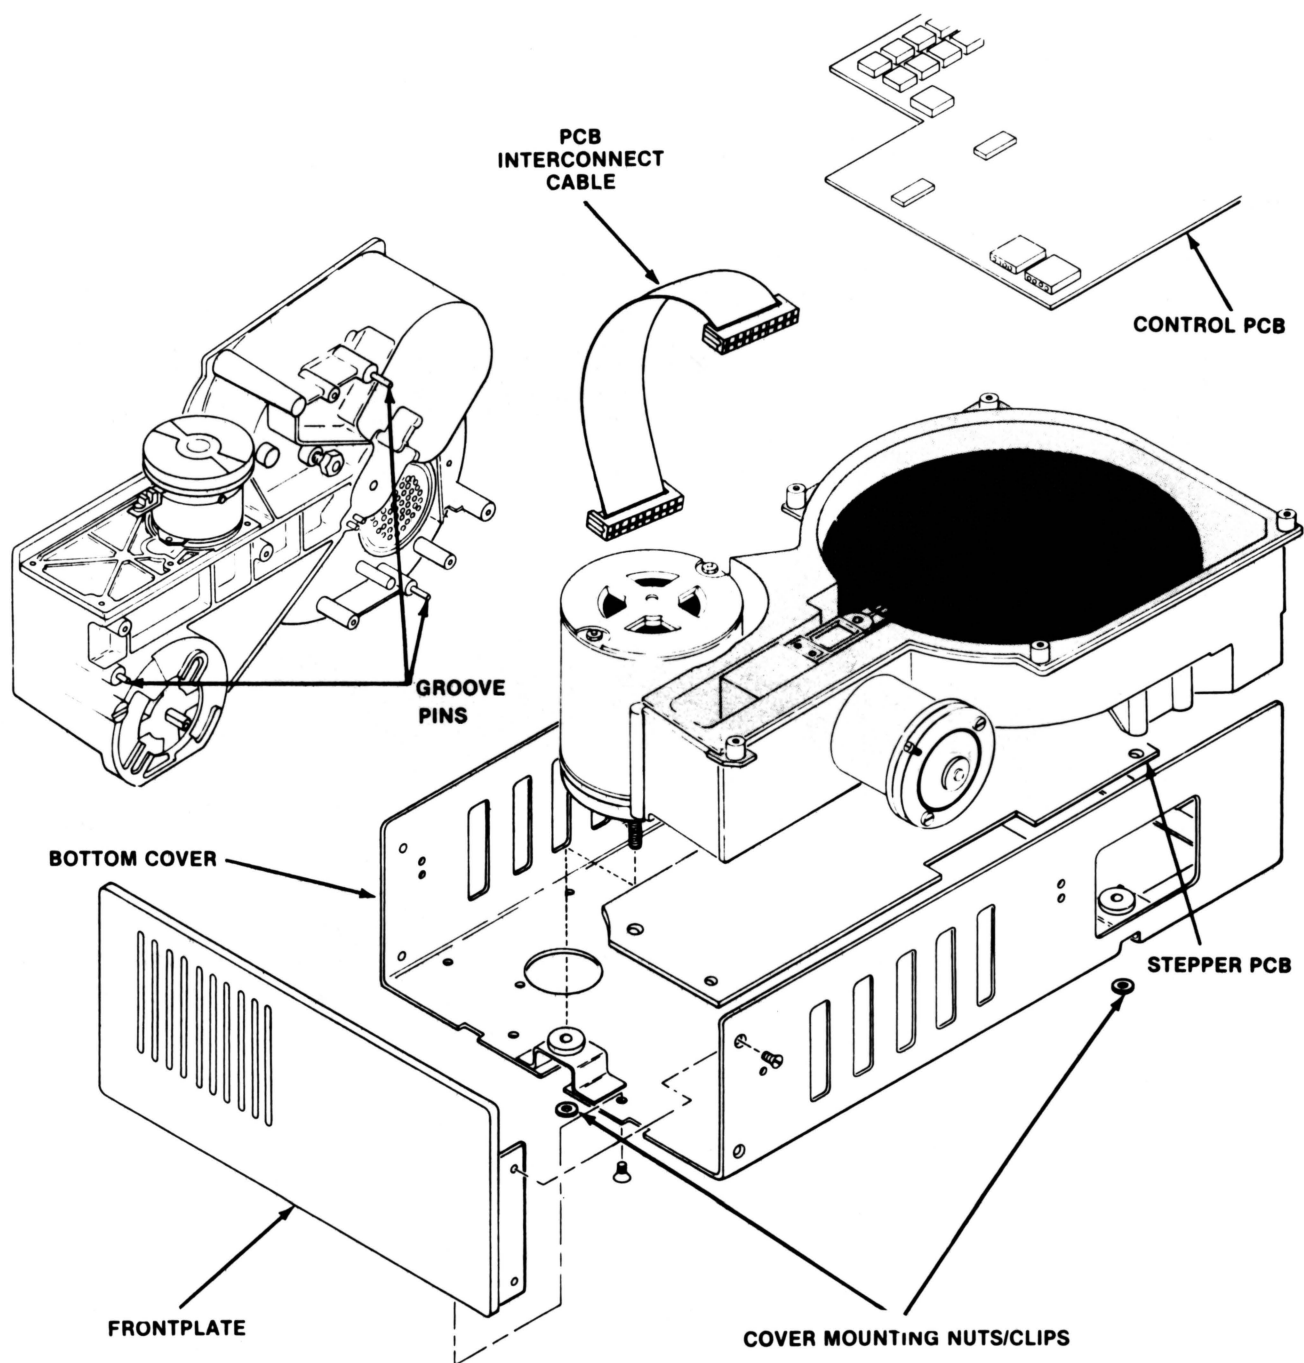

FIGURE 7. SA1000 COVER
4. Unscrew the three cover mounting nuts (refer to Fig. 7).